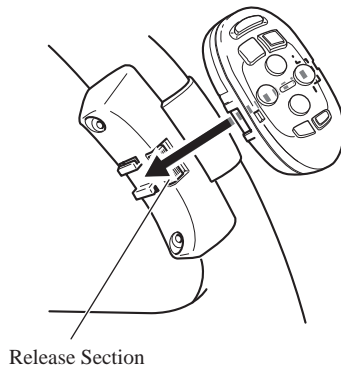

Fig. 16
4. Install the remote control unit in the holder. (Fig. 16)